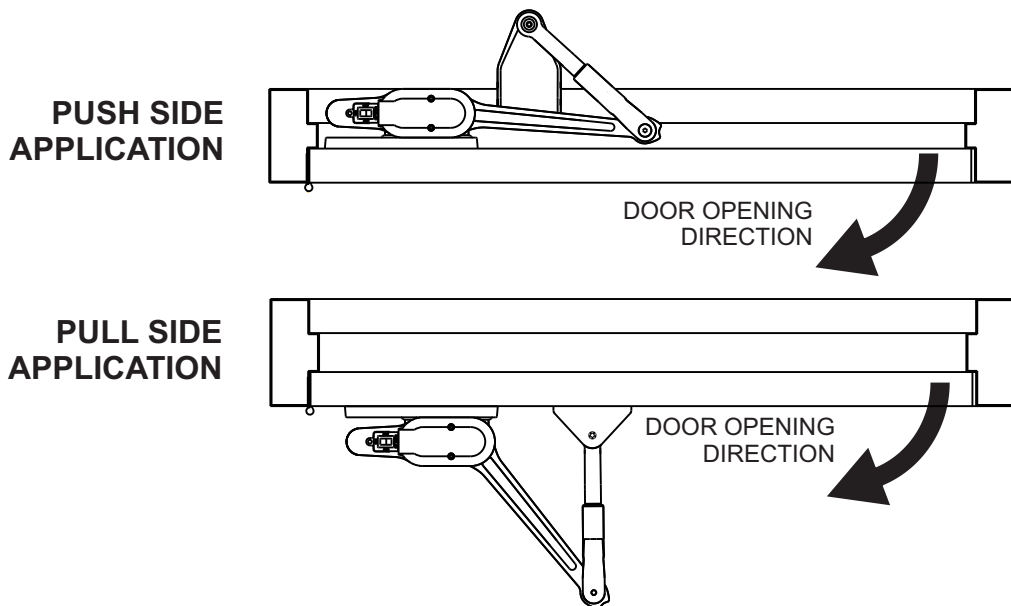

Figure 5
2. Refer to Figure 5, and DETERMINE if the door is a push side application or a pull side application.